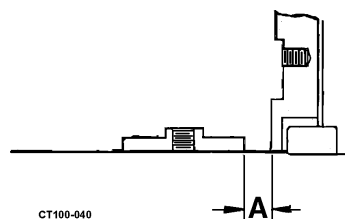

Figure 29 - Drive Collar to Backplate Dimension
3. Scribe a mark on the shaft at location "A" behind the backplate. See Figure 29.
Table 8: Callout dimensions for Figure 29
6. Locate drive collar in relation to the scribe mark and secure to the shaft with the set screws. See Figure 29.